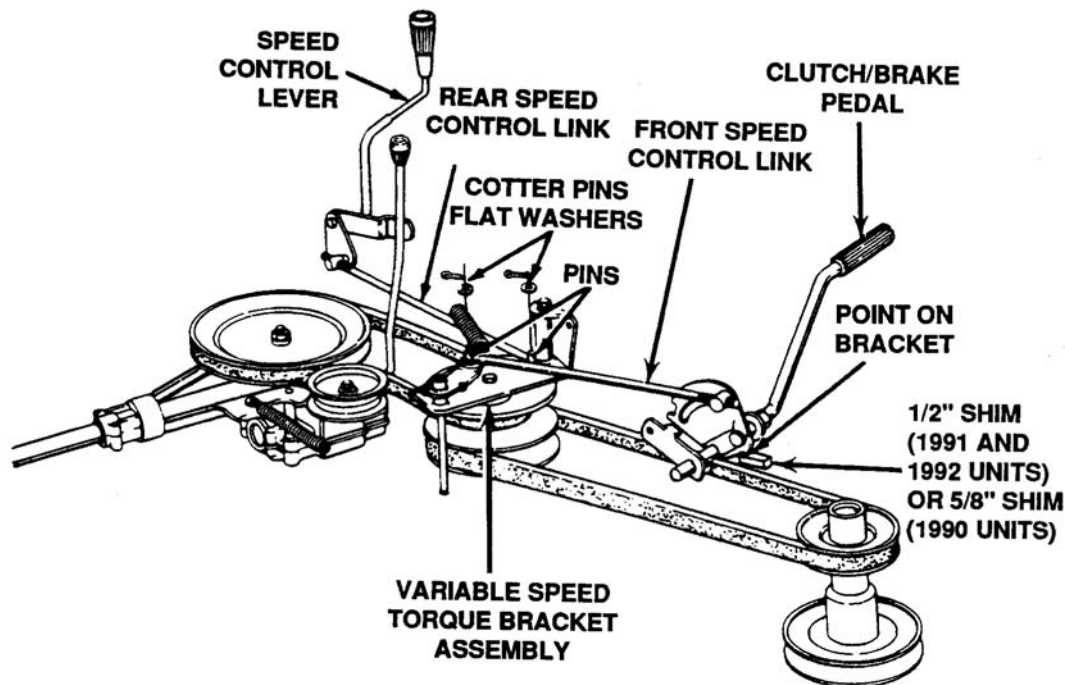

Figure 4-54. Speed Control System
4-9.1 Speed Control Adjustment. See Figure 4-54.
- j. Place a 1/2 inch shim (for 1991 and 1992 units) or a 5/8 inch shim (for 1990 units) under the point of the bracket on the clutch/brake pedal as shown in Figure 4-54.
If the rear drive belt comes off, the idler pulley may need to be repositioned to the rear hole of the idler bracket assembly. See Figure 4-54. Another cause for rear drive belt failure is the idler bracket not being in line with the variable speed pulley and transmission pulley. This can be corrected by ordering a new idler bracket assembly or bending the bracket in line.